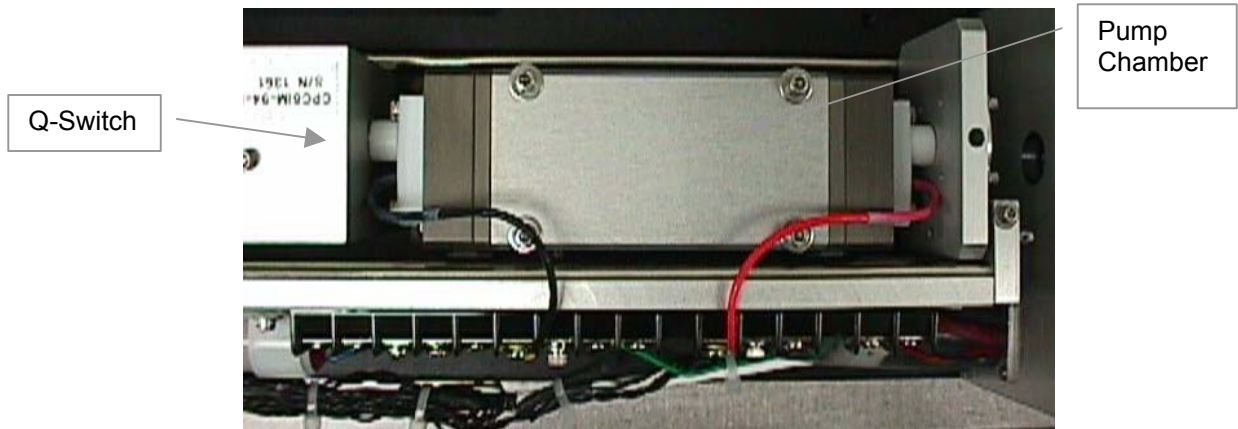

Figure 5-4. Pump Chamber Attachment Screws
- 4) There are four screws, accessible from the top, that hold the pump chamber to the baseplate, Figure 5-4.